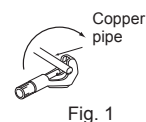

Fig. 1
- The drain hose should point downward for easy drain flow. (Fig. 1)
- 1) Cut the copper pipe correctly with pipe cutter. (Fig. 1, 2)